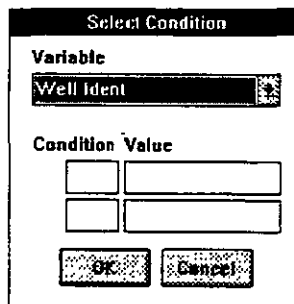

Figure 5-11
2. Click on **Select Condition**. The dialogue box as shown in Figure 5-11 will appear offering you to select a variable to use as a 'selection condition'. The variables are all data that make a part of your Master data portion of the data base.